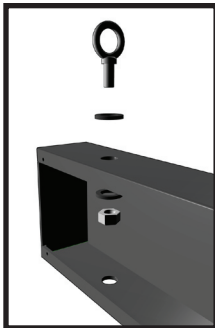

Figure 2
- Locate the mounting holes. Mount the eyebolts using the supplied locking nuts and washers in the order as shown in Figure 2.